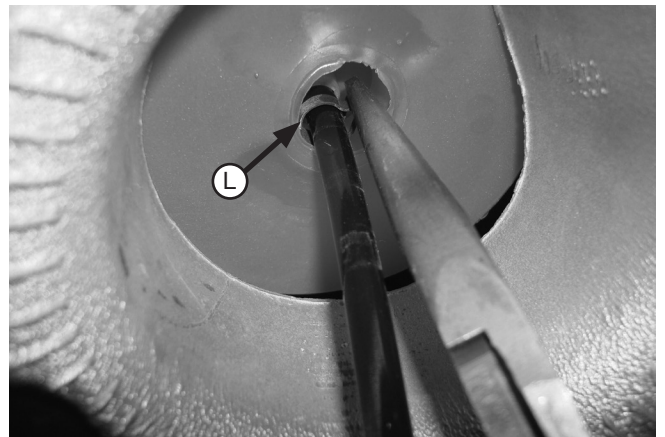

Fig. 5
- With the protector in place, push the air spring down so the stem is in the center of the protector's hole (Fig. 5). Install an air line clamp (L) on each end of the air line. Push the air line over the barbed stem, completely covering all the barbs. Install the clamp over the barbed stem using a pair of needle nose pliers.